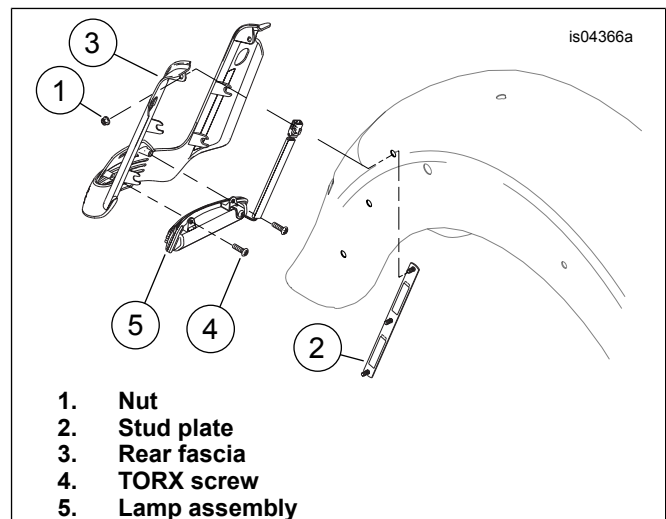

Figure 1. FLHX Rear Fascia and Lamp
3. See Figure 1. Remove six flange nuts (1) from the right and left fender stud plates (2).
- See Figure 1. Remove the two T-20 TORX® screws to release the light assembly from the fascia. Save the screws for installation of the new light.